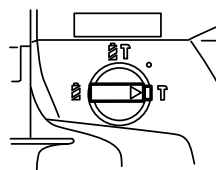

Fig. 15
- (1) Disassemble housing as per < 2 >, and then, take out the cam shaft unit and tool holder unit from housing L.
- (2) Set change lever to percussion mode as illustrated in Fig. 15.